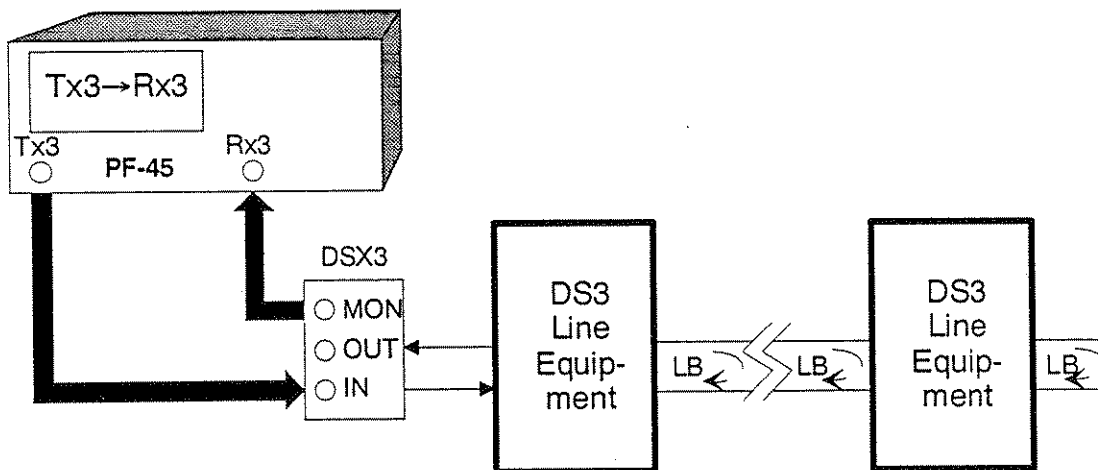

Figure 4-3: Tx3->Rx3 Mode
The five test modes provide a complete test solution by transmitting and receiving the correct test signal for the network or network equipment under test (Figs 4-3 through 4-7). Other network elements must no longer be pulled out of service to create or access the test signal. Only the system under test need be in the test loop.
In [Tx3->Rx3] mode (Fig 4.3), a DS3 test pattern (such as  $2^{23}-1, 2^{20}-1, 2^{15}-1, 1010, 1100$ , etc.) is transmitted, received and analyzed. The test object could be for instance, a DACS 3/3, a DS3 looped-back signal (as shown), or a straightaway test with a PF-45 at each end of a DS3 circuit.
1. - Connect the PF-45 DS3 receive jack [12] to the monitor jack of the incoming DS3 at the DSX cross-connect panel with the appropriate cable, as shown in Figure 4-3.
- Connect the PF-45 DS3 transmit jack [11] to the input jack of the outgoing DS3 at the DSX cross-connect panel with the appropriate cable, as shown in Figure 4-3.